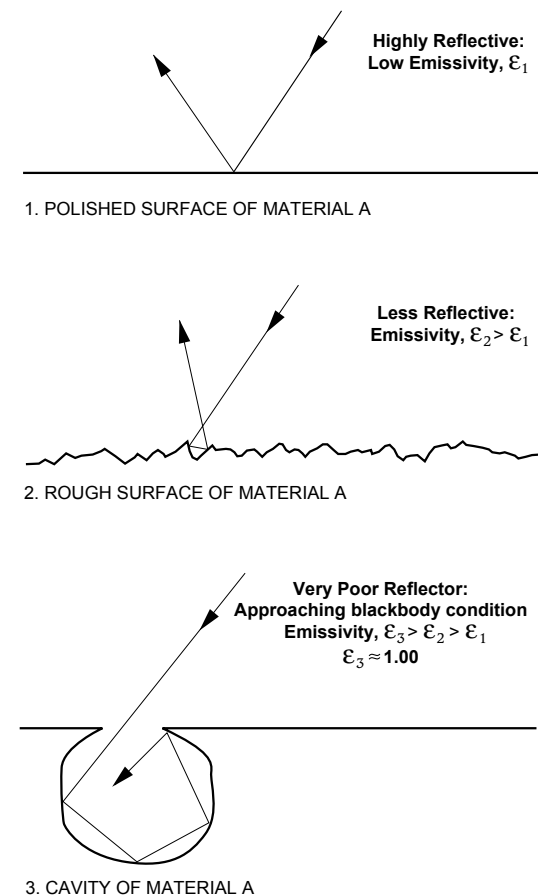

FIG. 7.1 – REFLECTED RADIATION
An ideal infrared radiator, called a *blackbody*, emits the maximum amount of infrared energy possible at each given temperature. It has an Emissivity (E) equals 1.0, as in Fig. 7.1. The targets you deal with in practice, however, are *non-blackbodies*. Their emissivity values are less than 1.0, which means they emit a fraction of the infrared energy a blackbody would emit at a given temperature.
Fig. 7.1 shows how a target's surface characteristics affect its reflective properties, hence its emissivity. It is assumed in the figure that each sample of Material A is thick enough to be completely opaque ($T = 0$). Notice that a cavity in an opaque object comes very close to having blackbody characteristics; $E = 1$ when both $R = 0$ and $T = 0$.
From Fig. 7.1, you can see why the lower value of a given range represents a flat, highly polished sample of the material. The upper value represents a sample of the material that has a flat surface that is as rough as might be expected when in its "crude" or "unfinished" form.